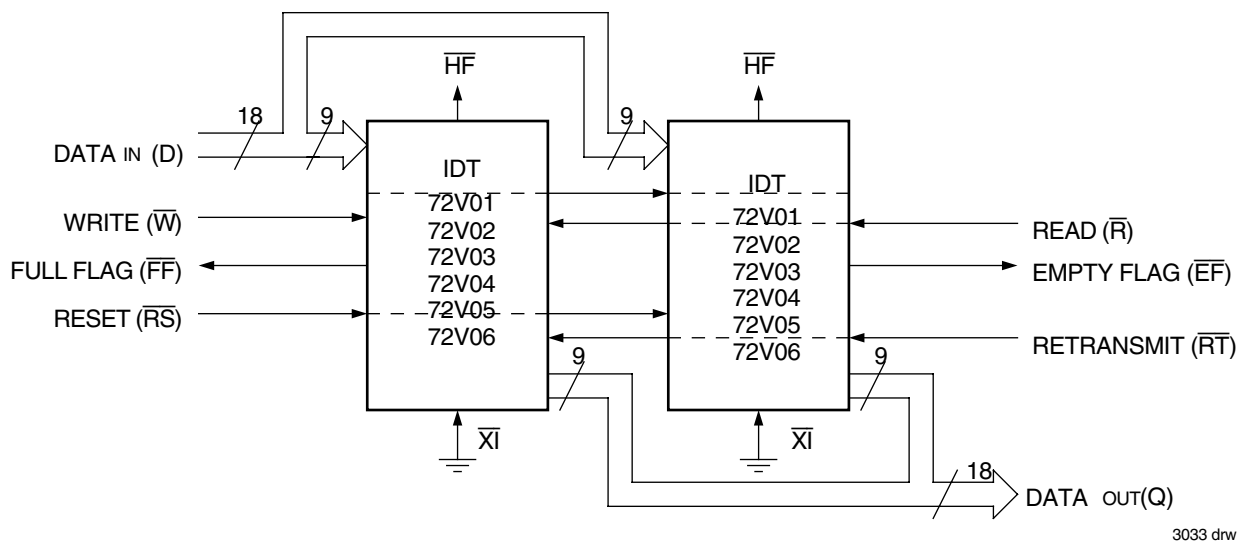

Figure 13. Block Diagram of 512 x 18, 1,024 x 18, 2,048 x 18, 4,096 x 18, 8,192 x 18 and 16,384 x 18 FIFO Memory Used in Width Expansion Mode
Word width may be increased simply by connecting the corresponding input control signals of multiple devices. Status flags (\overline{EF} , \overline{FF} and \overline{HF}) can be detected from any one device. Figure 13 demonstrates an 18-bit word width by using two IDT72V01/72V02/72V03/72V04/72V05/72V06s. Any word width can be attained by adding additional IDT72V01/72V02/72V03/72V04/72V05/72V06s (Figure 13).
2. For Flag detection see section on Width Expansion and Figure 13.